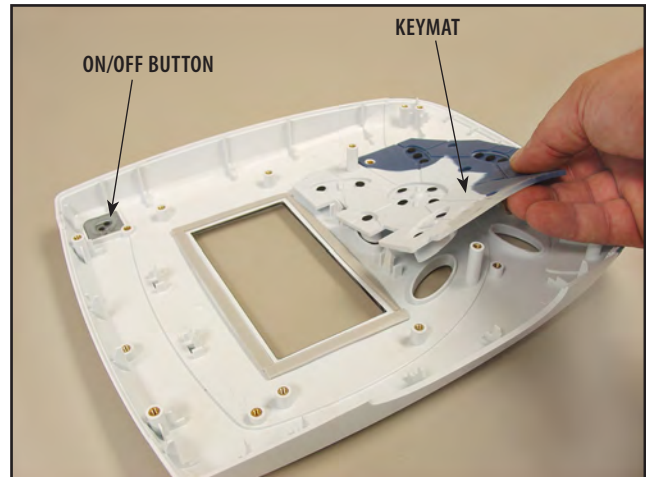

FIGURE 6.24
6. Lift out Keymat Assembly or On/Off Button Keymat. **See Figure 6.24.**